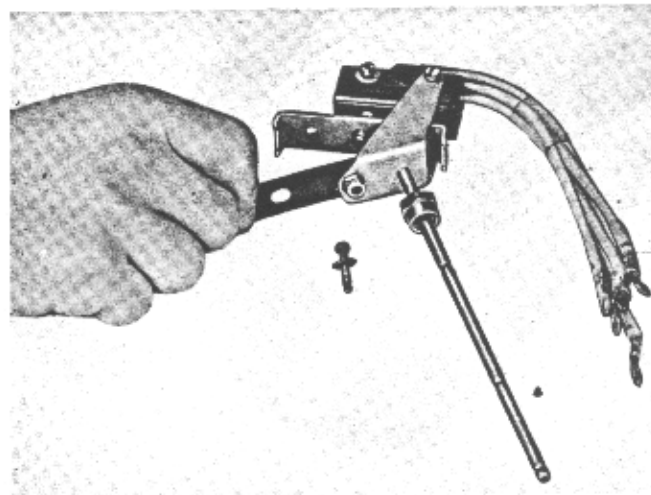

Figure 49
- c. Turn micro switch back on bracket and remove bow spring (Figure 49).